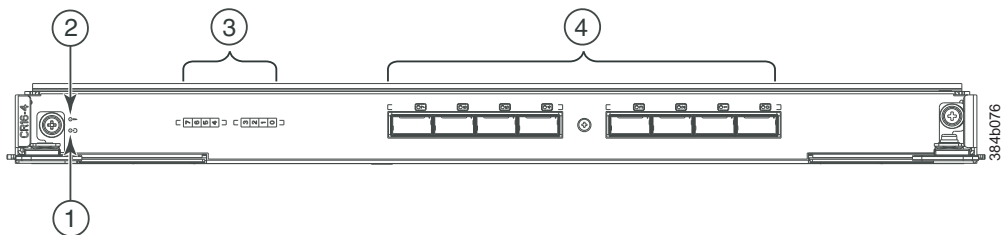

Figure 23. Core switch blade (CR16-4)
1. Check the LED indicators on the core switch blade (Figure 23). The LED patterns may temporarily change during POST and other diagnostic tests; for information about how to interpret the LED patterns, see Table 10 on page 57.
Figure 23 shows the CR16-4 core switch blade and its components.